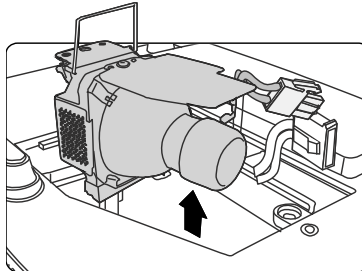

Figure 3. Removing Lamp Assembly.
6. Lift the handle as shown in Figure 3 so that it stands up. Use the handle to slowly and carefully pull the lamp assembly out of the projector.